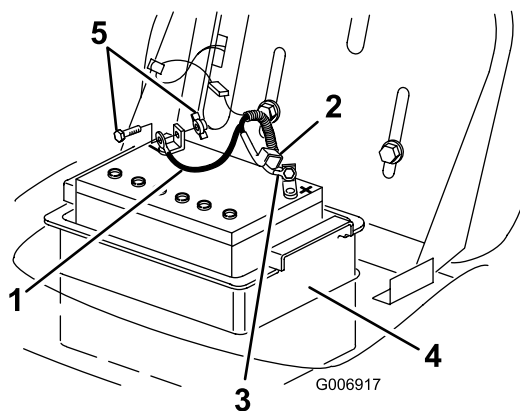

Figure 26
4. Disconnect the negative (black) ground cable from the battery post (Figure 26).
5. Slide the rubber cover up the positive (red) cable. Disconnect the positive (red) cable from the battery post (Figure 26).
6. Remove the battery box and battery from the chassis (Figure 26).
1. Put the battery into the battery box and install it into the chassis (Figure 26).
2. Using the bolt and wing nut, connect the positive (red) cable to the positive (+) battery post (Figure 26).
4. Using the bolt and the wing nut, connect the negative (black) cable to the negative (-) battery post (Figure 26).